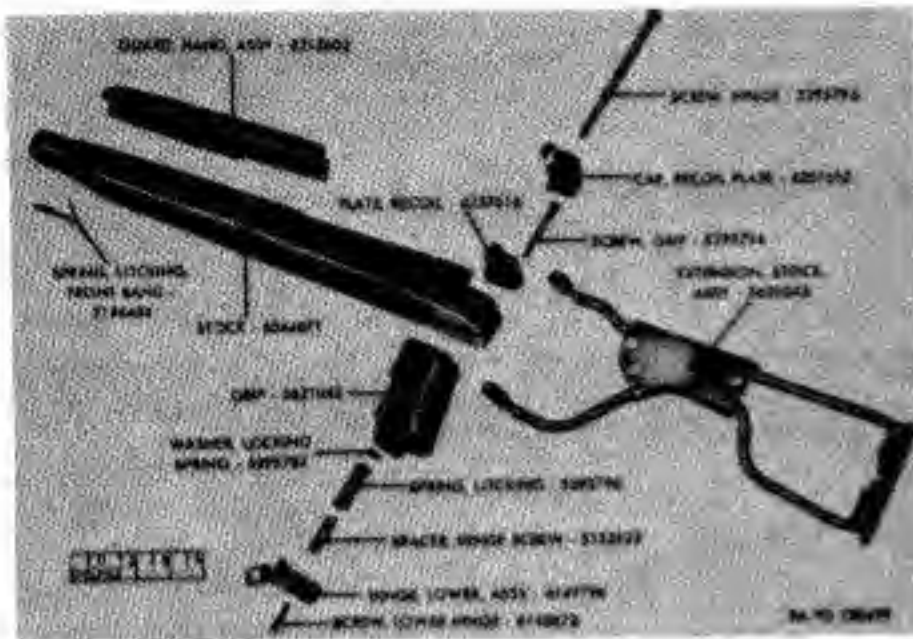

Figure 105. Stock assembly 6544072 and hand guard assembly 6212602 for carbine M1A1.
a. Stock Extension (Fig. 105).
- (1) Remove lower hinge screw from lower end of stock grip by turning counterclockwise.
- (2) With stock extension in extended position, unscrew the hinger screw projecting from the upper face of the recoil plate cap by turning counterclockwise. When screw is disengaged from the lower hinger nut, pull screw up and out of grip and then lift off recoil plate cap and lower hinge.
- (3) With flat-ended punch, push hinge screw spacer out of hole in the lock on end of lower bar up into coil spring. Then pull stock extension to rear from stock and remove grip spring, hinge screw spacer and trip spring washer from countersunk hole in lower end of grip. Take care that spring does not fly out or washer does not become lost.
- (4) Remove grip and recoil plate by unscrewing the grip screw counterclockwise from top of recoil plate.
m. Inspect cheek rest plate and retaining plate for deformation and looseness with each other on the bars when assembled. Inspect rivets for looseness and protrusion of heads. Inspect cheek rest cover for scoring and cracking of leather. Cheek rest plate should be held tightly to bars by retaining plate and rivets, and leather cover, on the stock extension assembly (Fig. 105), should be smooth, so it will not scrape face of operator.